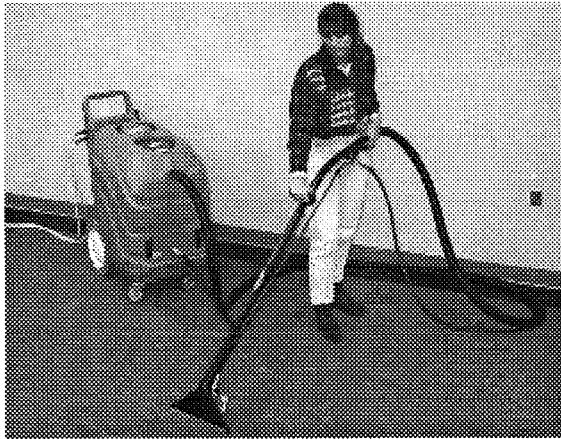

Fig. 5
3. Place floor tool so bottom of stainless steel shoes are parallel to floor. Squeeze trigger and apply downward pressure on floor tool head and slowly pull tool backwards using both hands. Release trigger 6 inches from end of stroke. (Figure 5)